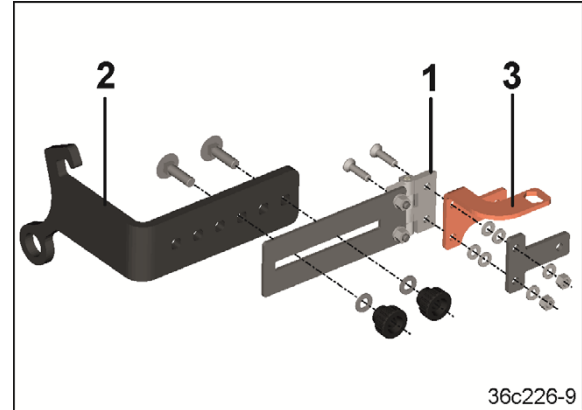

Fig. 113
3. Bolt the middle part (Fig. 113/1) with the top link bracket (Fig. 113/2) and section (Fig. 113/3).